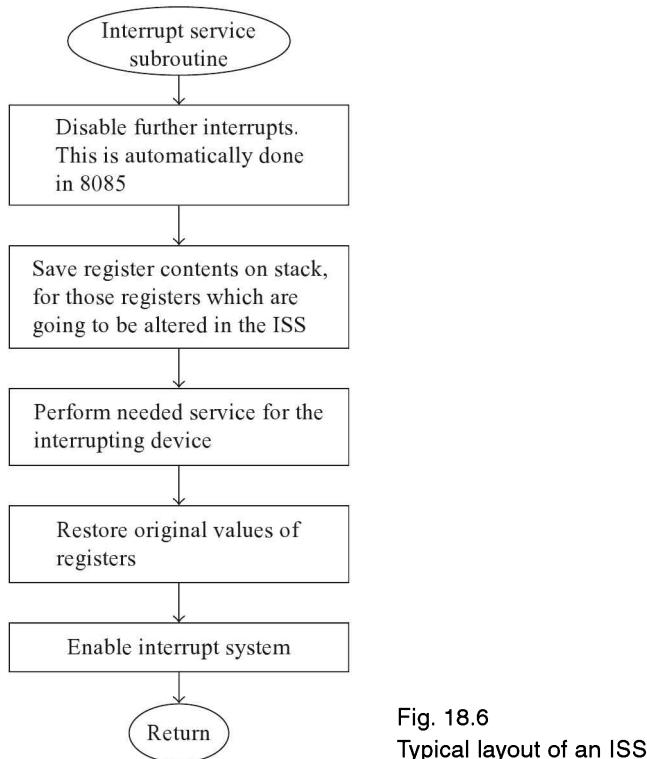

Fig. 18.6
- Normally an ISS consists of three portions. The first portion is used for saving on the stack all the register values of 8085 that are going to be affected by the execution of the ISS. Thus, it uses a number of PUSH instructions. The next portion will have instructions to achieve the actual purpose of the ISS. If the purpose is data transfer, we will have IN or OUT instruction in this part. However, if the I/O port is connected as memory-mapped I/O, a memory reference instruction will be used for data transfer with the I/O port. The last part is used for restoring the original values to various registers that were affected by the second part of ISS. As such, it contains a number of POP instructions. The ISS then ends with EI and RET instructions. The purpose of EI instruction will be discussed later. The typical layout of an ISS is provided in Fig. 18.6.